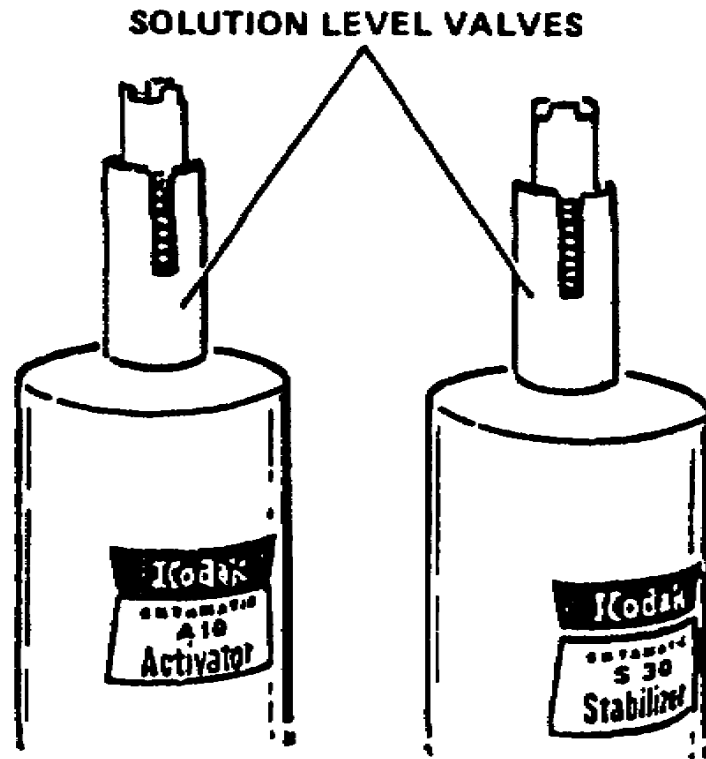

Figure 1-17. Solution level valves
(7) Install chemical supply bottles. After removing the caps from the one-quart solution bottles, install a solution level valve to each bottle as shown in Figure 1-17. Tighten each valve securely. To prevent the contamination of the solutions, always use the black solution valve with the activator and the red valve with the stabilizer.